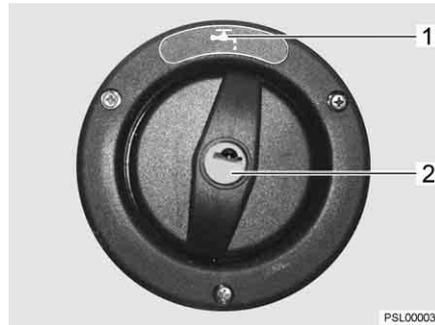

Fig. 37 Cap for the drinking water filler neck
▷ The drinking water filler neck is indicated by the symbol "☰" (Fig. 37,1).
- Insert the key in the locking cylinder (Fig. 37,2) and turn it in an anticlockwise direction.